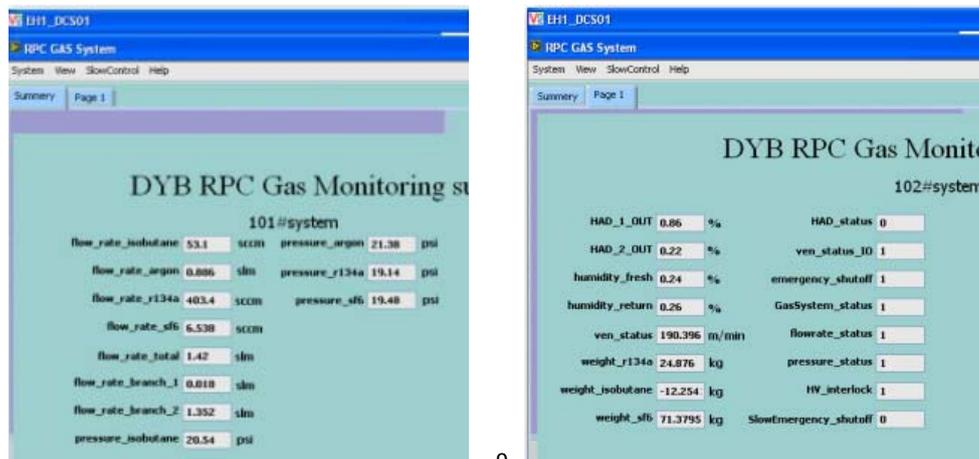

Fig. 5 Two pages of DCS RPC gas monitoring system.
- b. Click on the icon "Shortcut to **DCS RPCGASSYSTEM**" (If the PC you are using has been installed with this monitoring program, you can ignore the 'VNC' procedure. By default, this monitoring program has been started already, so you can skip this step.), there are two pages for the gas system as shown in Fig. 5: